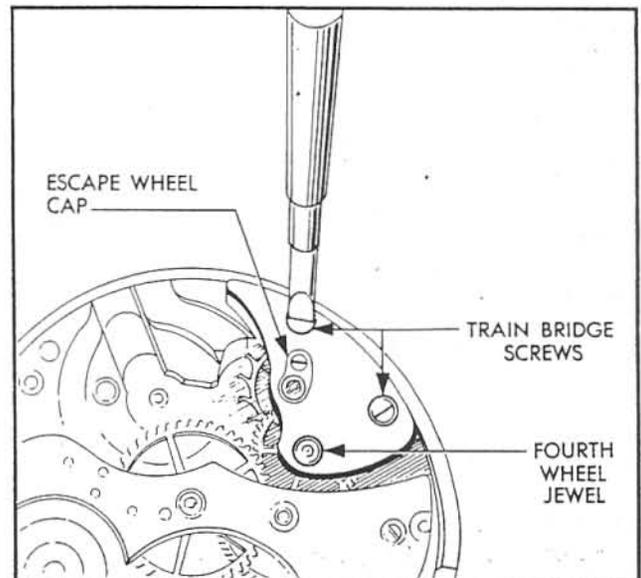

Figure 19—Removing Train Bridge
(7) **TRAIN BRIDGE.** (See figure 19.)—Remove the two train bridge screws and lift the bridge from the pillar plate. Then lift out the escape and fourth wheels. Removal of the escape upper endstone cap screw allows separation of the escape upper endstone cap from the bridge.